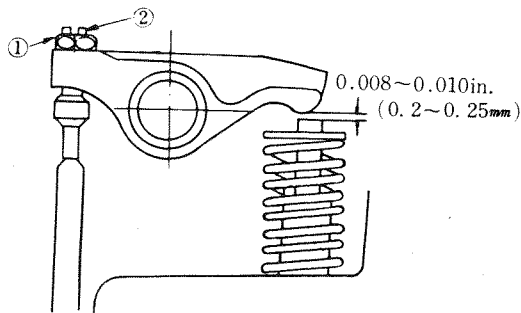

Fig. 18 Valve Clearance
- (b) If the valve timing is adjusted to 0.008 to 0.010 in. (0.2 to 0.25 mm) when the engine is cold, as shown in Fig. 18, the figures would be as shown in the following chart.